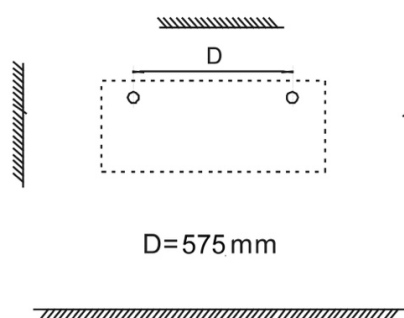

Fig.2
2. Make two suitable holes of the size of the fisher $\varnothing 8$ mm in the wall. (Fig. 2) – $d = 575$ mm